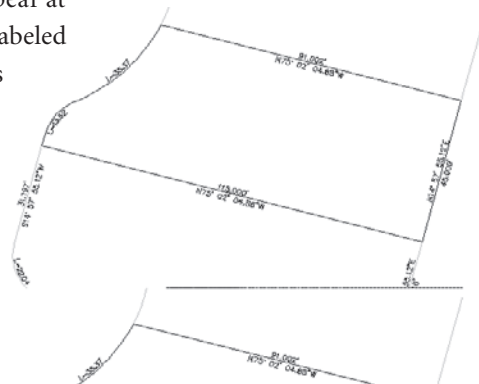

Figure 3.10
4. At the `Select Entity:` prompt, pick each line and arc in the drawing one at a time. A label will appear at the midpoint of each entity. After you have labeled all of the lines, click `Close` on the `Add Labels` dialog. Your result should be similar to Figure 3.10.